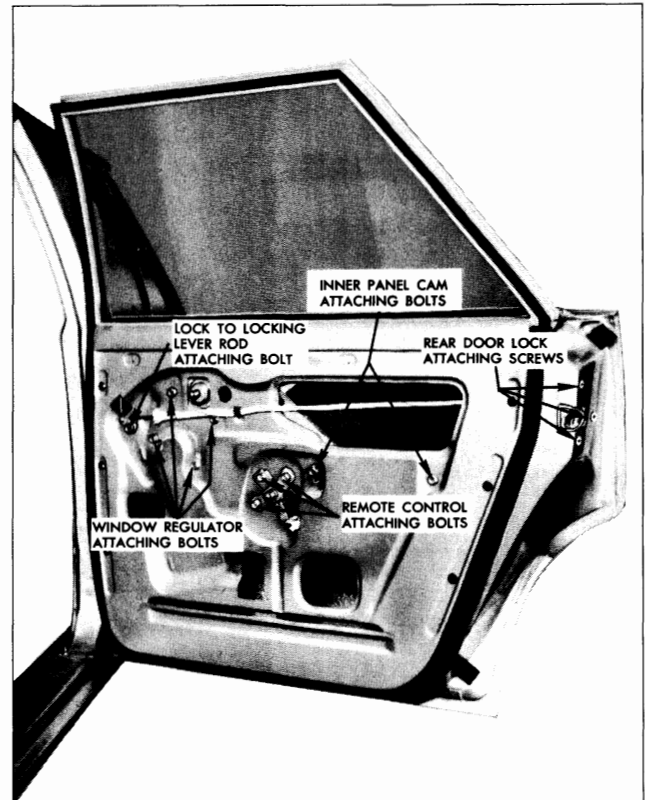

Fig. 12-39 Rear Door Hardware
3. Remove screws securing lock to door lock pillar facing and remove lock through inner panel access hole (Fig. 12-39).
4. To install, reverse removal procedure. Check lock for proper operation before installing water deflector (Fig. 12-39).
3. Remove inside locking rod assembly attaching bolt and washer and detach connecting rod from clip on inner panel (Fig. 12-39).
2. Remove two attaching bolts and slide cam out of engagement with regulator balance arm roller and remove cam (Fig. 12-39).
4. Remove window regulator attaching bolts and move regulator assembly rearward to disengage lift and balance arm rollers from lower sash channel cam and remove regulator through large access hole (Fig. 12-39).
A rotated window can be corrected by adjusting the inner panel cam (Fig. 12-39).